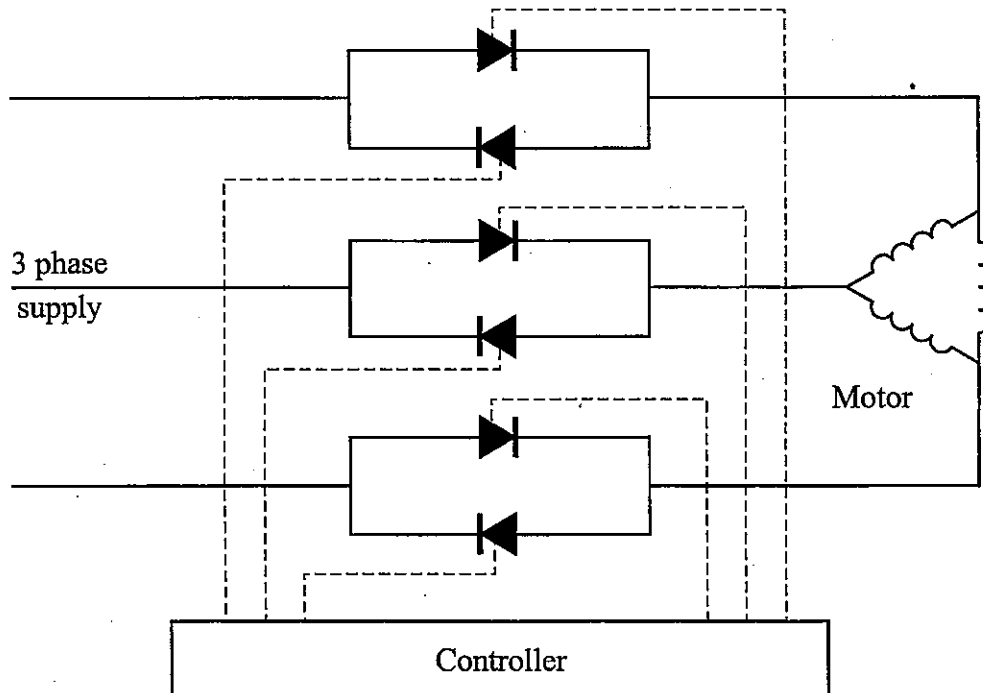

Fig Q7
- (a) the value of the current in the neutral line; (6)
- (b) the phase angle of this current relative to the voltage between the red line and the neutral; (6)
- (c) the total power dissipated in the circuit. (4)
- (a) Calculate the number of turns in each phase winding of the primary and the secondary winding, if the maximum permissible flux in the core is 0.0012Wb. (7)
- (b) Calculate the transformer efficiency when supplying an output current of 300A at U.P.F. given the following: (9)
7. Fig Q7 shows a *soft start* circuit for a delta connected induction motor, using six thyristors (silicon controlled rectifiers).
- (a) Explain how the circuit works to reduce the current drawn by the motor during starting. (7)
- (b) Sketch the voltage waveform applied to 1 phase of the motor at EACH of the following points of the starting sequence: (3)
- (i) at the beginning; (3)
- (ii) part way through; (3)
- (iii) at the completion. (3)